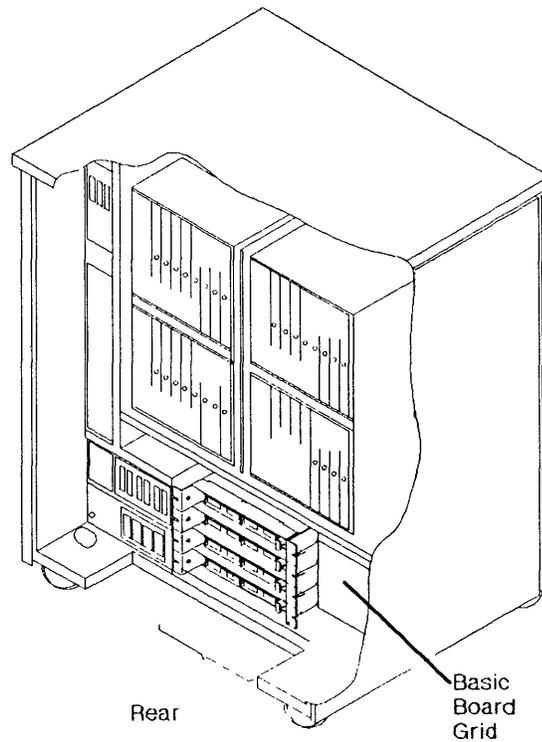

Figure 4-80. Basic Board Grid
5. Take away the grid of the Basic board. (4 screws must be removed). Refer to Figure 4-80.